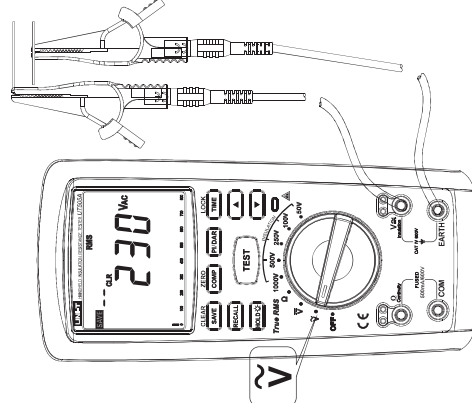

Figure 4
1. Measurement of AC voltage (See Figure 4)
- ① Insert red test pen in "ACV" jack (red hole) and black test pen in "EARTH" jack (black hole).
- ② Push the rotating switch to the gear "V~" and connect test pen in parallel with the power source or to both ends of the load to be measured.
- ③ Directly read the measured voltage value from display.
- ④ To save the measured voltage value during measurement, just push the button "SAVE".